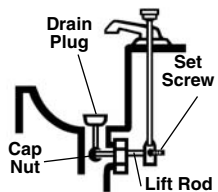

Figure 4
- For a sink with a pop up drain plug: Remove lift rod and drain plug (See Figure 4). Be sure to place a container under the clean out or trap to catch any water that may come out.